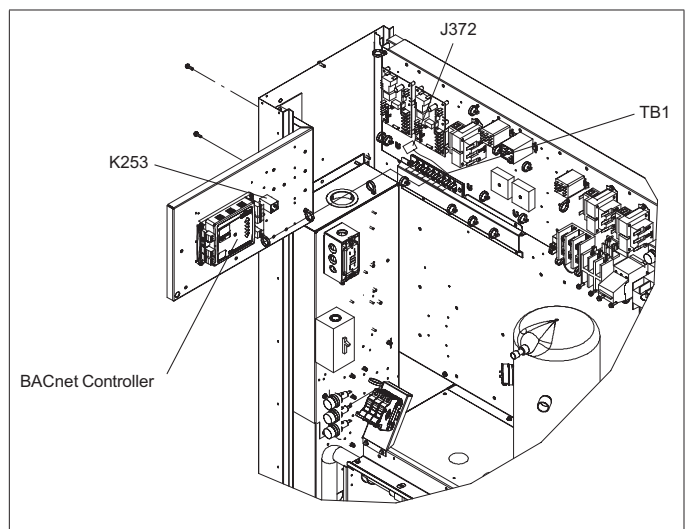

Figure 8. Landmark C-Box
- c. C Box Units - Position the BACnet assembly so that the BACnet module faces the control panel. Align dimples or knock-outs in unit mullion with engaging holes in DDC mounting bracket. Secure with the provided two 5/8" sheet metal screws, see "Figure 8. Landmark C-Box" on page 4.